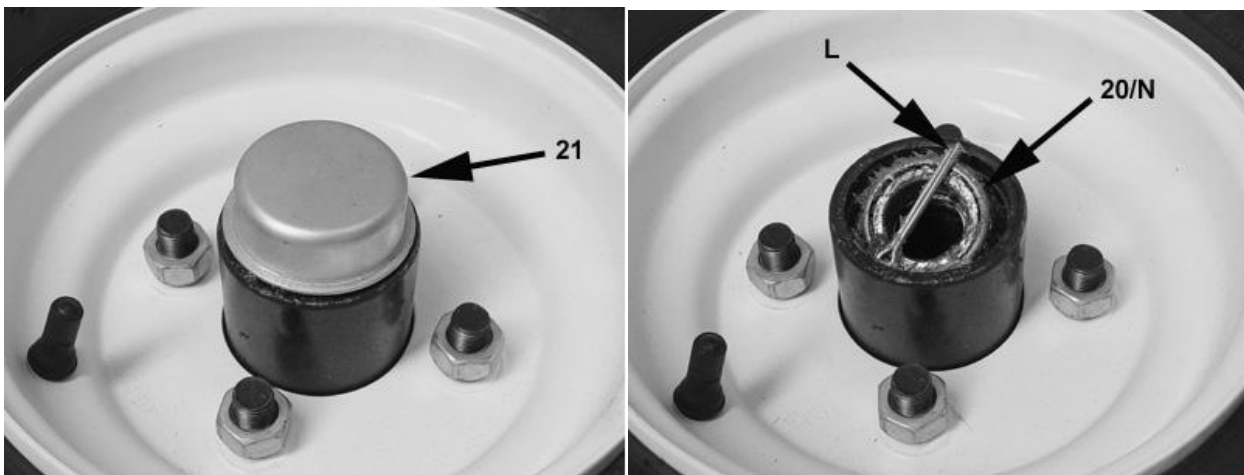

Figure 6-2
2. Remove hub cap (21) using a small pry bar between the flange on the hub cap and the face of the hub.
3. Remove 4mm cotter pin (L), bearing (20) and washer (N). See figure 6-2.